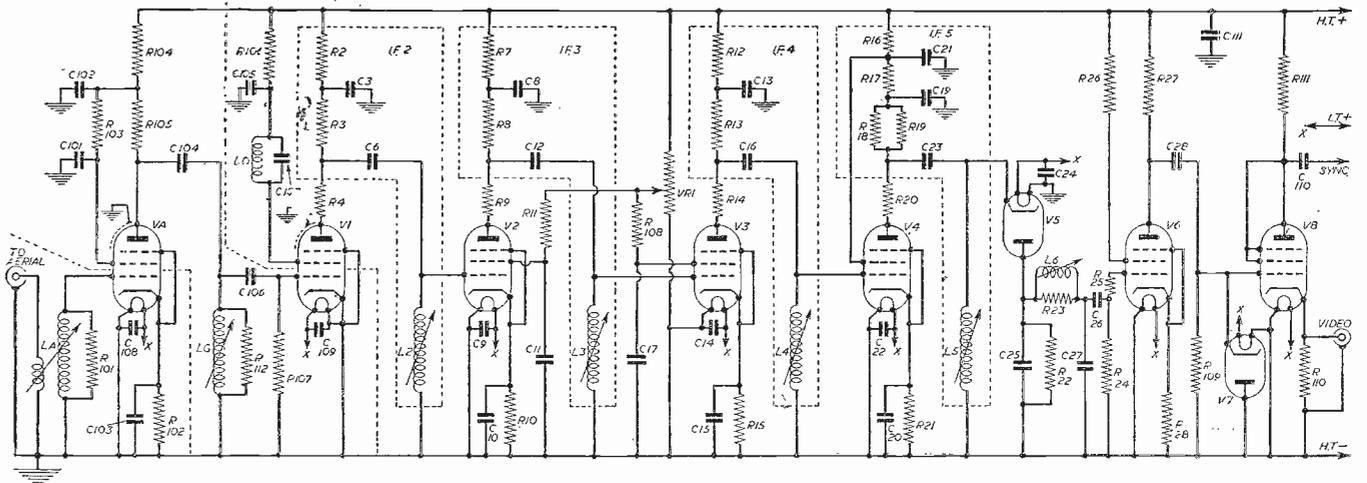

Fig. 3.—Complete circuit of the modified unit.
The existing aerials in this area are tuned to Wenvoe and it will be necessary to alter the tuning to Channel 2 by adding sections to the dipole as given in Fig. 3.
With reference to Fig. 1 (b) and Fig. 3, the circuit of the complete receiver is described as follows. The received signal is applied from the aerial to an R.F. amplifier (VA) via the R.F. transformer LA. This valve is resistance-capacity coupled to V1, a tuned-grid, tuned-screen frequency changer. The next three stages, V2, V3 and V4, are I.F. amplifiers with grid coils slug-tuned to or near 12 Mc/s. The H.T. supply to V2 and V3 screens may be varied in order to control the gain. The I.F. voltage developed across L5 is rectified by the diode V5, filtered by L6 and C27 and the resulting video applied to V6, a video amplifier. This valve has its cathode resistor unby-passed to provide negative feedback. V8 is a phase-splitter with a D.C. restoring diode V7 in its grid circuit. The picture content is available at the cathode of V8 and synchronising pulses at the anode.
Now the new circuit as shown in Fig. 3 may be built up. In order to retain the old valve numbers as
Inductors can be wound to specified dimensions to have a predetermined value of self-capacitance, this self-capacitance, together with the coil inductance, forming the tuned circuit, Fig. 3. If this circuit be arranged to resonate at the TV channel frequency, it will form an effective barrier to this frequency. This insertion loss will be very high, depending on the circuit Q. Self-capacitance of inductors can be calculated from a variety of formulae, as can the inductance. These formulae are obtainable for many types of coil windings in good radio reference books,